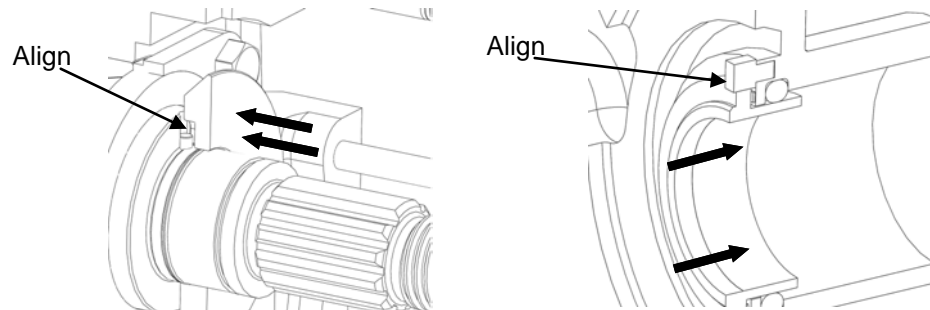

**Figure 32: Single Mechanical Seal Disassembly**
**Disassembly:** The single mechanical seal option consists of two mechanical seal sets (seal seat and stationary seal), two wave springs and four o-rings (Figure 32). Remove the stationary seals from the back of the body and inspect for chipping, scratches or any evidence of cracks on the seal face. Remove the body o-rings using the tool provided by Q-Pumps (discard o-rings). Remove the seal seats (rotating seals) from shafts and inspect for damage. If any of the seals are damaged do not re-use them. Remove shaft o-rings and discard.